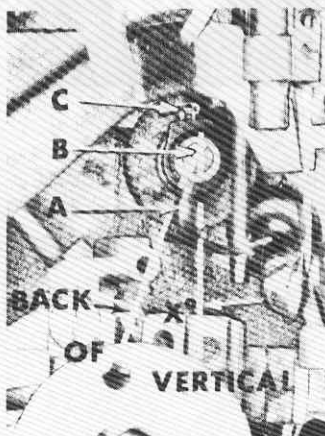
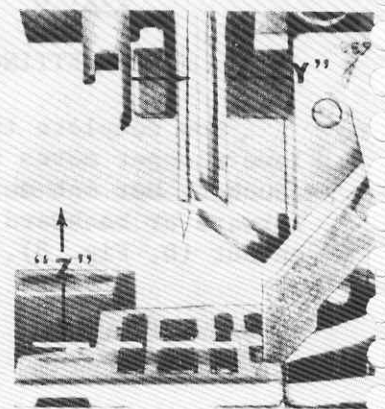

Fig. 10
Fig. 11
Insert upper looper or spreader (A, Fig. 10) in its holder. Screw (B) holds the looper or spreader in its holder and permits looper or spreader to be pushed in or out, or turned around its shank. Screw (C) in the collar, holds the holder in the shaft and allows the holder to be rotated or adjusted laterally.
Preliminary Setting: When looper or spreader is at the right end of its stroke, the holder should be set to position the looper or spreader shank approximately "X" degrees back of vertical and flush with the top of holder (Fig. 10). Set looper or spreader point to cross lower looper to the left of lower looper eye with .002 to .004 inch (.051 to .102 mm) clearance. At extreme left end of travel, the looper point or the lower point of the spreader should be set "Y" dimension left of needle centerline and "Z" dimension above throat plate (Fig. 11).